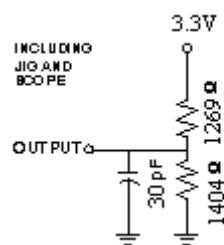

FIGURE 1A
5. Test conditions assume signal transition times of 5ns or less, timing reference levels of 0.5V_{CC}, input pulse levels of 0V to V_{CC} and output loading specified in Figure 1A.
9. Test conditions assume signal transition times of 5ns or less, timing reference levels of 0.5V_{CC}, input pulse levels of 0V to V_{CC} and output loading specified in Figure 1A.